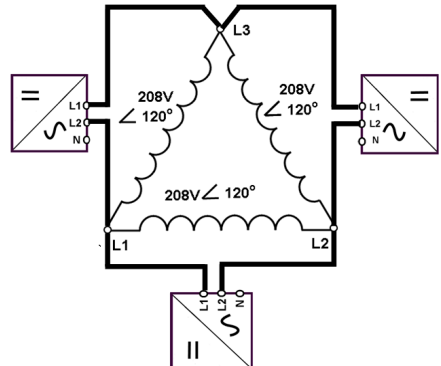

Figure 15: 208V Delta AC Grid
5. With at least two persons on either side of the inverter, lift it up and place it carefully onto the mounting plate. Install two screws as shown in the figure 15 to secure the device.